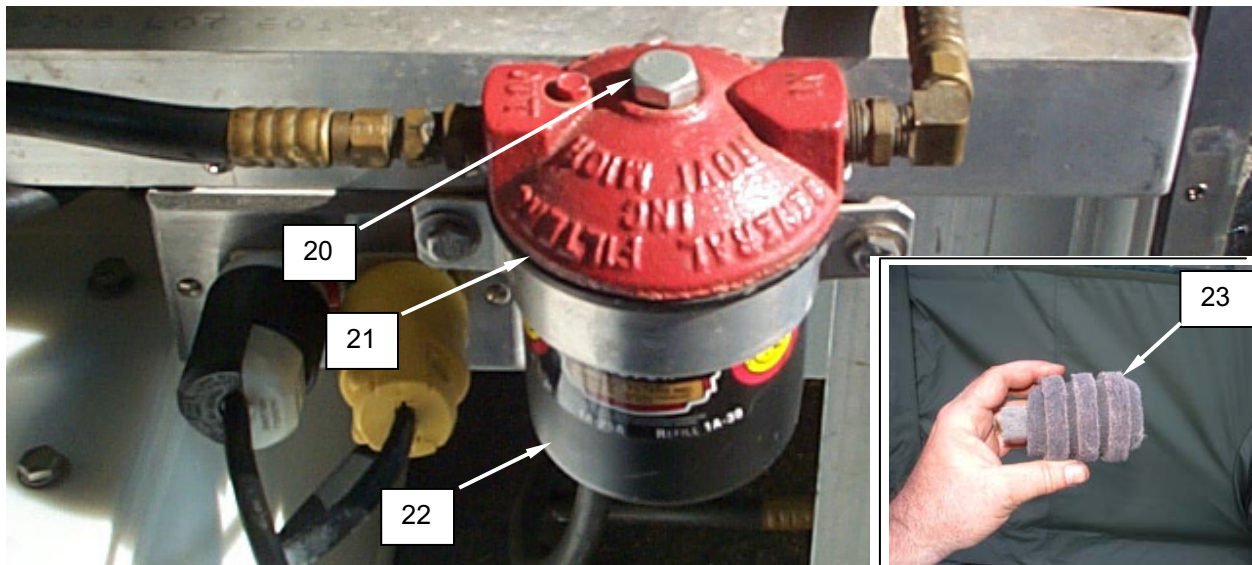

Figure 12. Replace the Fuel Filter.
2. Remove bolt (**Figure 12, Item 20**) retaining filter housing (**Figure 12, Item 21**) to filter canister (**Figure 12, Item 22**), and lift filter housing off of canister.
3. Remove and discard fuel filter (**Figure 12, Item 23**) from filter canister (**Figure 12, Item 22**). Install replacement filter into filter canister.
4. Ensure gasket is in place, and install filter housing (**Figure 12, Item 21**) onto filter canister (**Figure 12, Item 22**).
5. Retain with bolt (**Figure 12, Item 20**), and tighten.
6. Wipe any residual fuel from filter housing (**Figure 12, Item 21**) and filter canister (**Figure 12, Item 22**).